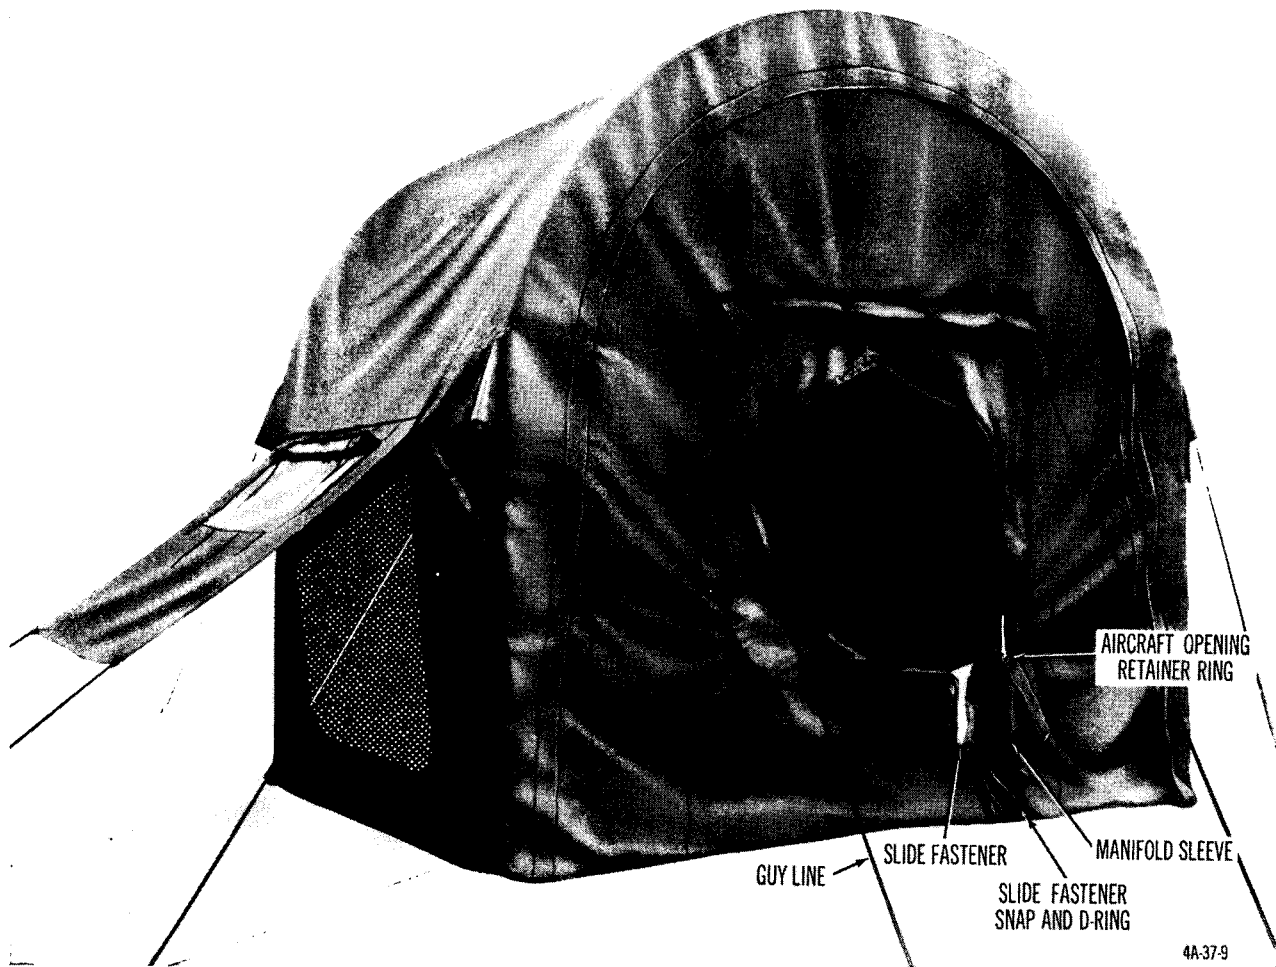

Figure 99. Tent section, end closure, U-6A (tent, aviation maintenance, small).
- (2) *Tent section, end closure, U-6A (fig. 99).*